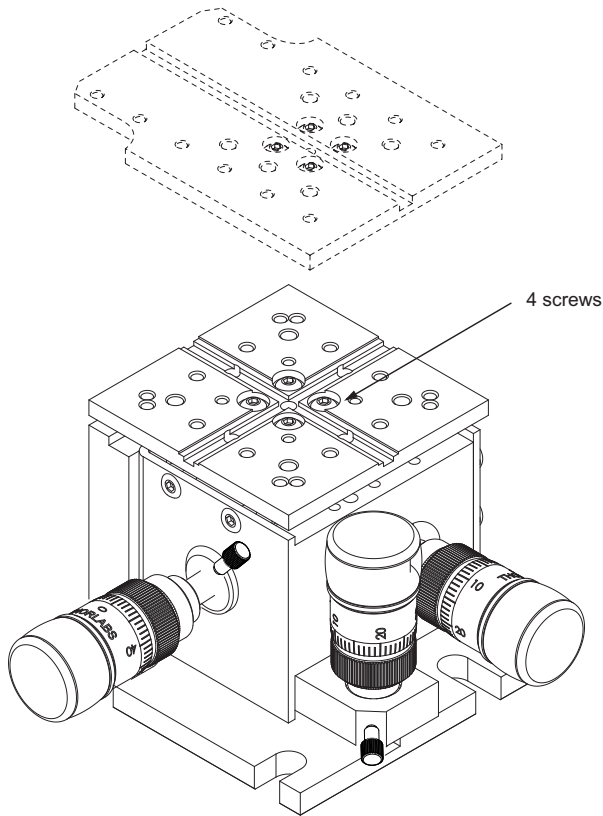

Fig. 4.2 Fitting an extended top platform
- 1) Remove the four retaining screws (see Fig. 4.2).
- 3) Refit the screws removed at item (1) and tighten to 85cNm (7.5 lb in).